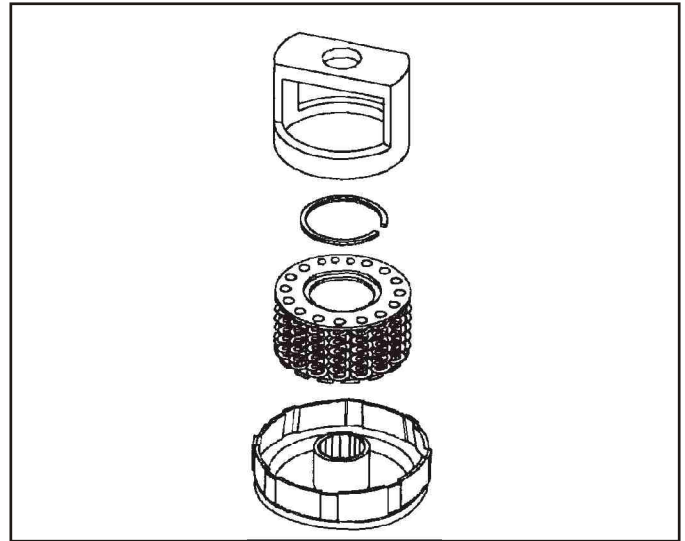

Figure 109
1. Place the piston return spring assembly into the 1st clutch drum. Using Saturn's spring compression tool SA9146T or equivalent, carefully compress the spring. With the spring compressed, use a suitable pair of snap ring pliers and install the retaining snap ring (See Figure 109).